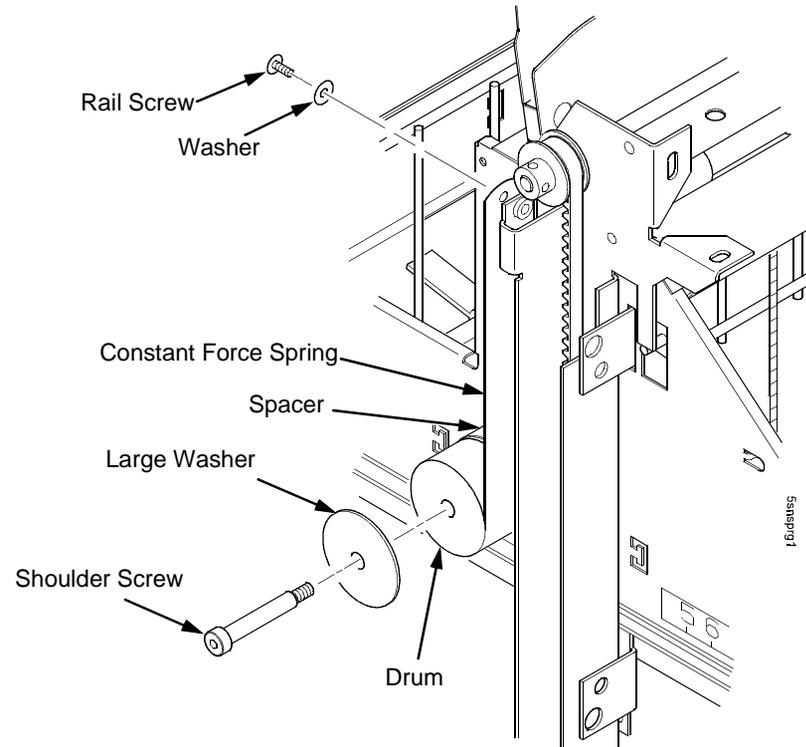

Figure 100. Removing the Constant Force Spring
3. Remove the shoulder screw, washers, and spacer from the constant force spring and drum. Let the spring coil itself up until it reaches the screw that secures it to the vertical rail. (Figure 100.)
4. Firmly gripping the spring and drum, remove the screw securing the spring to the vertical rail. (Figure 100.)